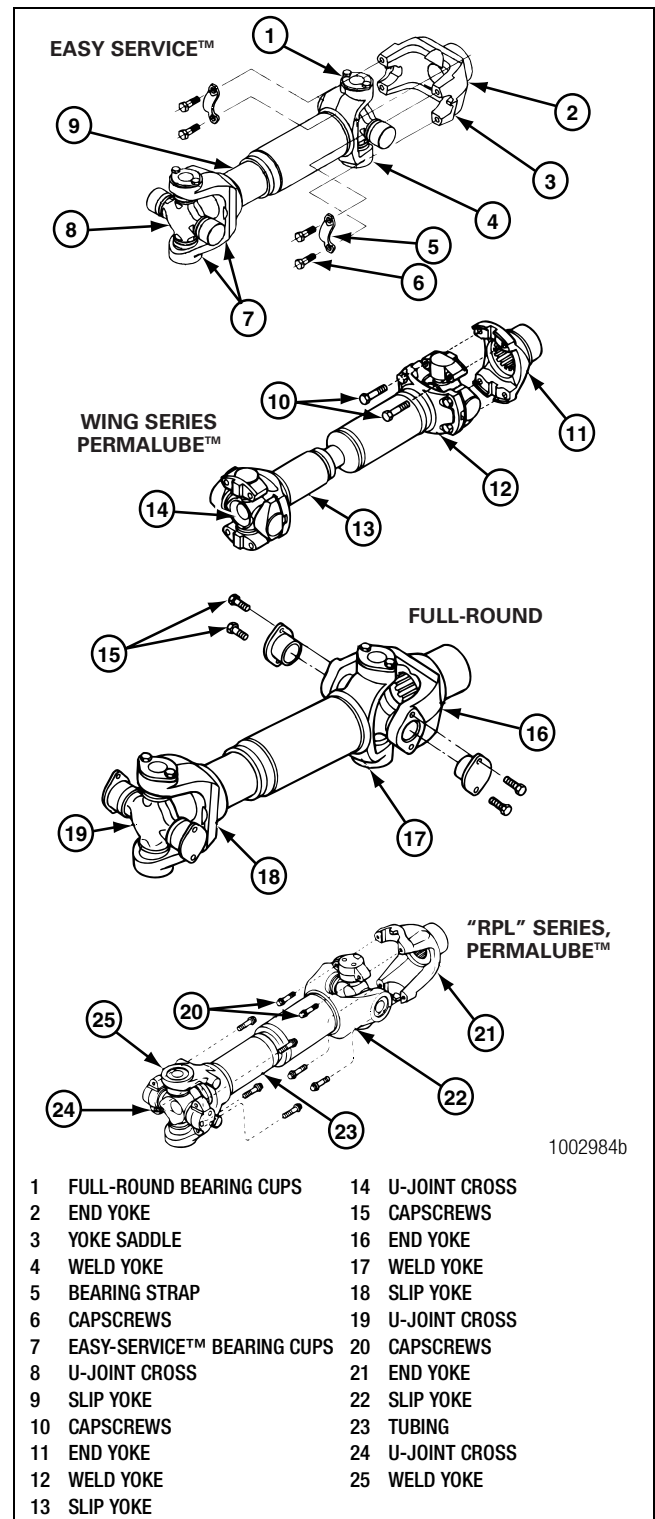

Figure 3.2
5. Disconnect the driveline universal joint from the pinion input yoke or flange on the carrier. Figure 3.2.